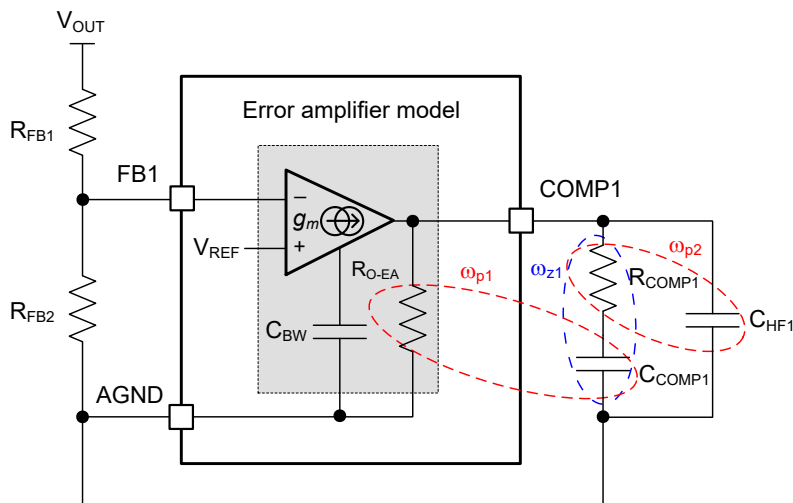

Figure 8-3. Voltage-loop Error Amplifier and Compensation Network
Figure 8-3 shows a type-II compensator using a transconductance error amplifier (EA) for the voltage loop. As shown in Equation 24, the dominant pole of the EA open-loop gain is set by the EA output resistance, $R_{\text{O-EA}}$, and effective bandwidth-limiting capacitance, C_{BW} .